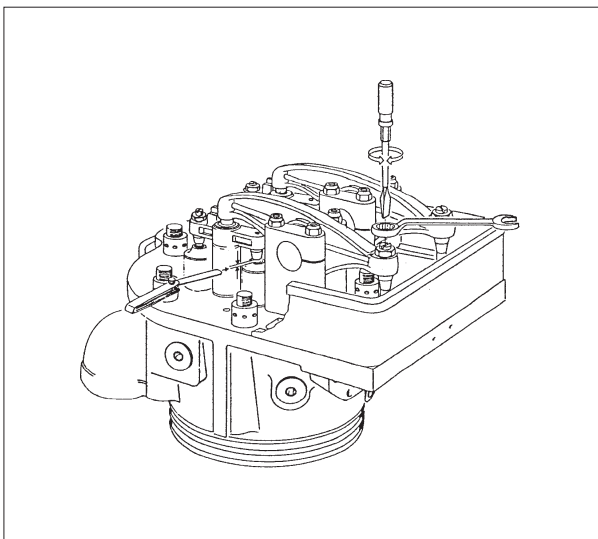

Fig. 1.
- 2) Loosen the adjustment screws on valve bridge and rocker arm, *see fig 1.*
- 4) Place the feeler gauge marked with "correct" 0,50 mm above the valve spindle nearest to the rocker arm bracket, *see fig 1.*